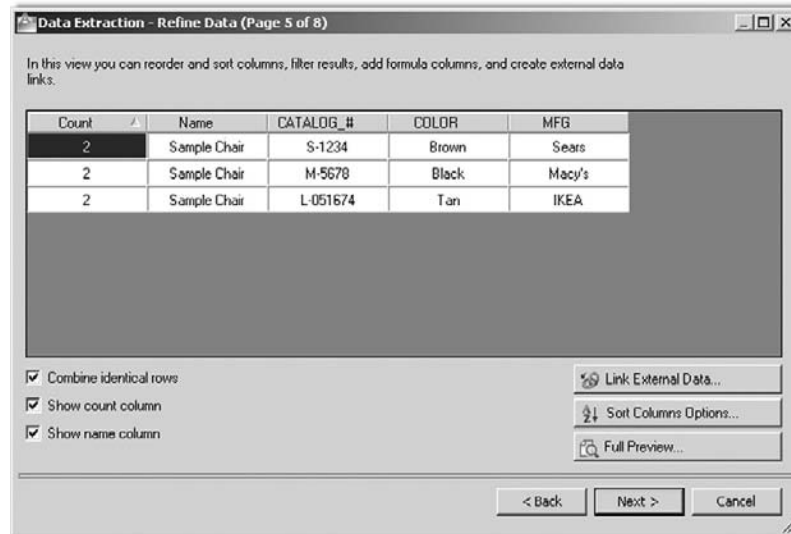

FIGURE 18.15
- Step (Page) 5.** Refine Data (Figure 18.15). This step is for you to refine the data if needed. It contains some interesting features, such as Link External Data... (to tie in this output to another Excel file) as well as some tools for adjusting and tweaking the columns. Much of this and more can be done in Excel itself after extraction is completed, but it can be useful to adjust the look and content of the table extractions, as tables are less flexible. If you want to change nothing, press Next > for the final few steps.